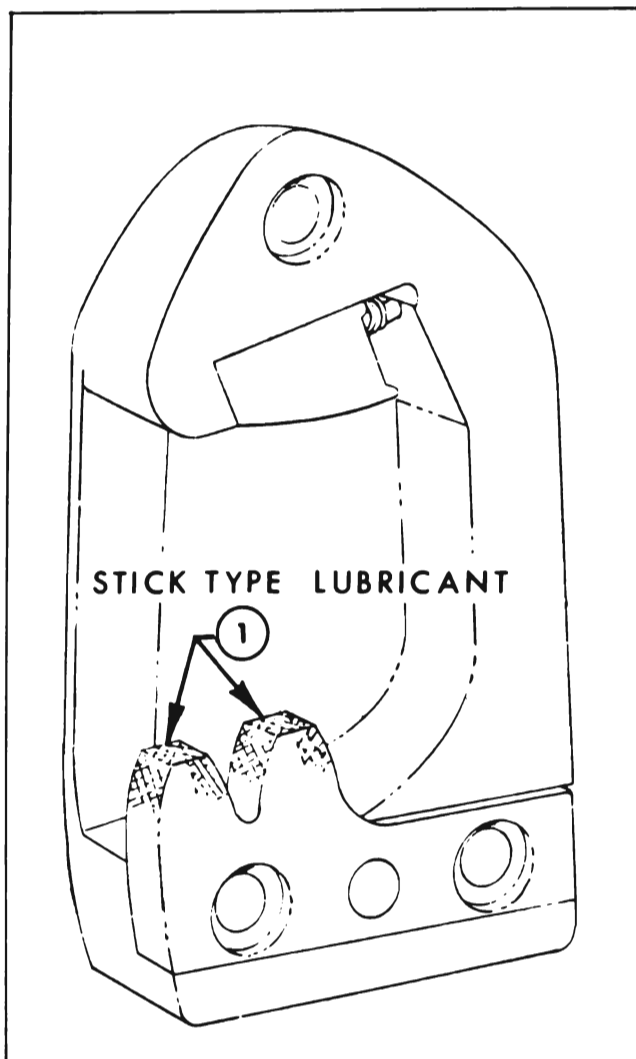

Figure 1-17—Door Lock Striker
6. Door Lock Striker. Wipe off dirt and apply a thin coat of stick-type lubricant to top surface of lock bolt striker teeth (Figure 1-17). After lubrication, close door several times and remove excess lubricant along side edge of teeth.